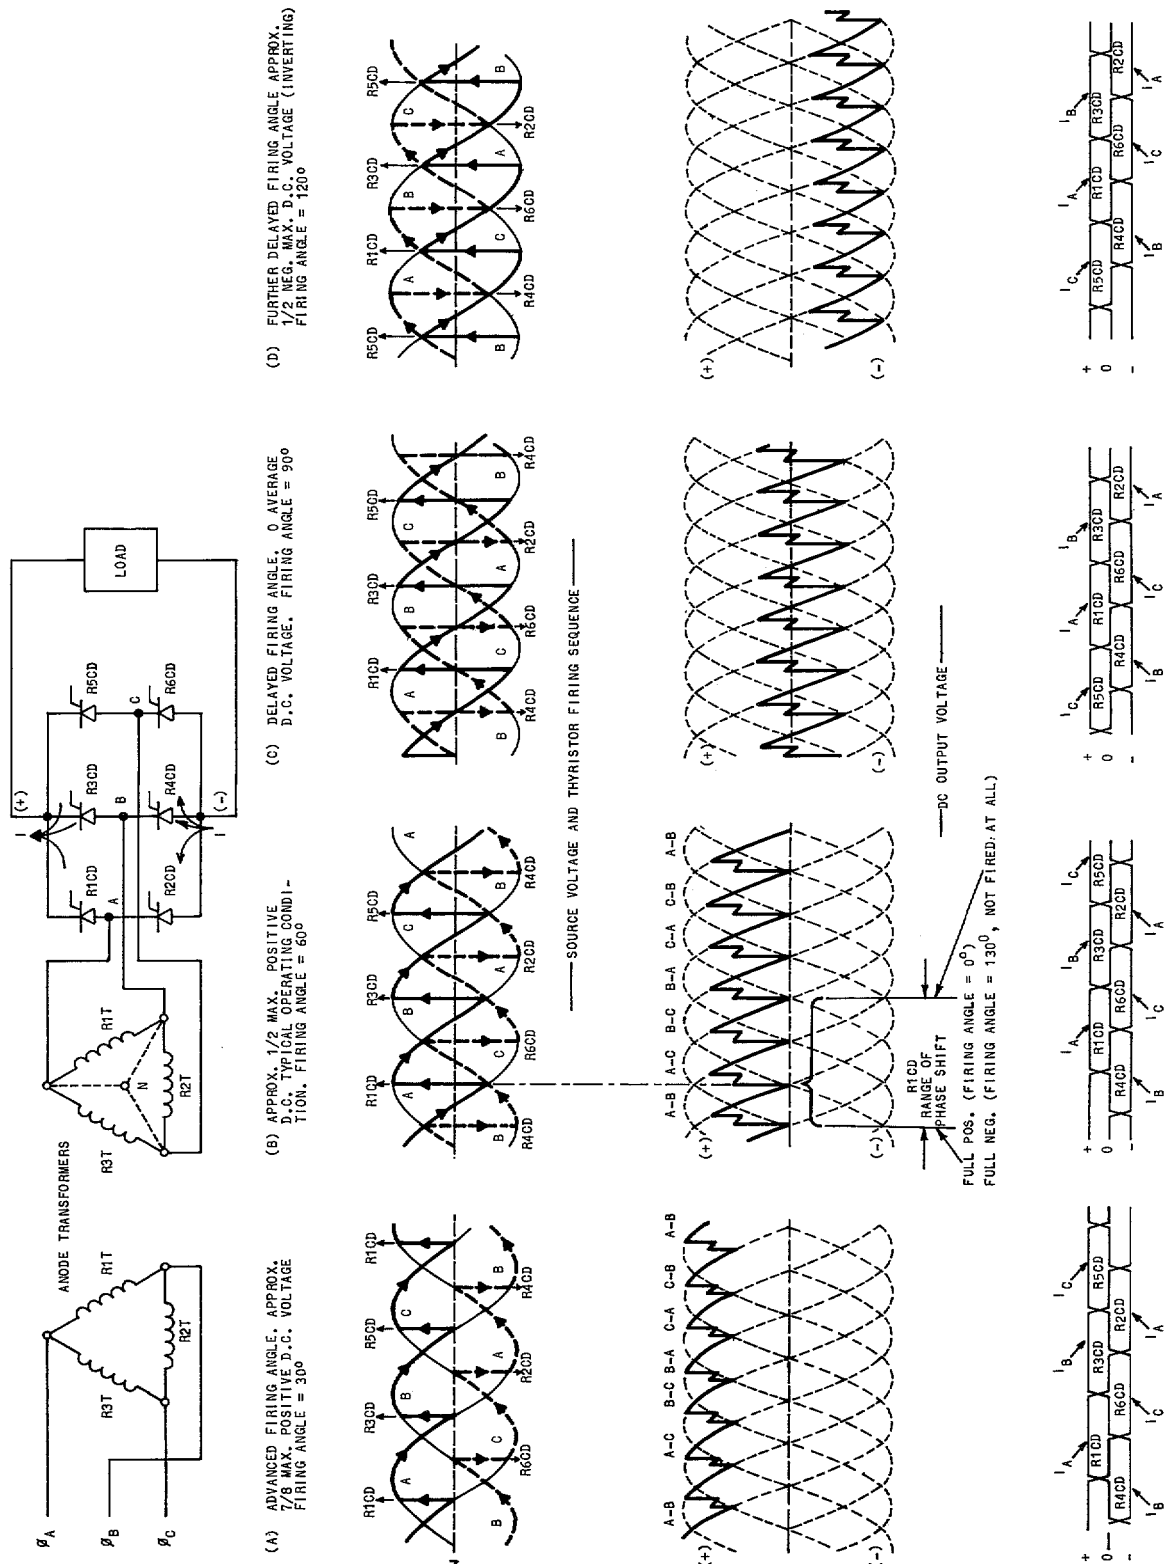
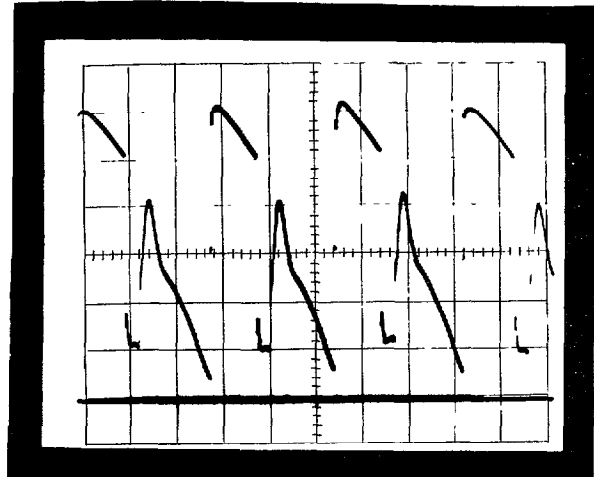
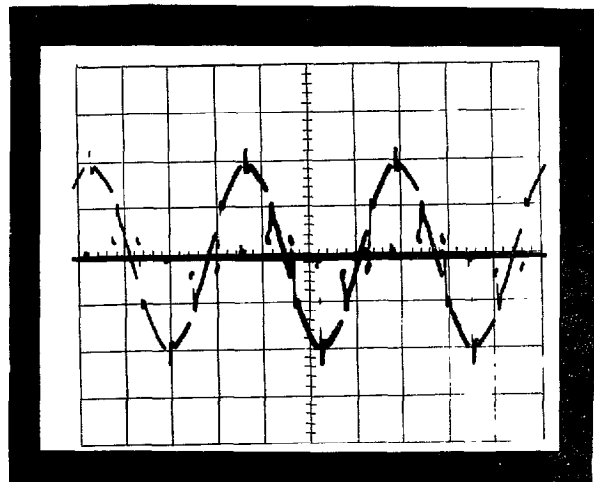

Figure 4. 3-Phase Full-Wave Thyristor Bridge Circuit (Inverting Type).
Figure 5. Exciter Field Voltage Oscillogram.
Figure 6. Exciter Terminal Voltage Oscillogram.
- g. Monitor the exciter field voltage with an oscilloscope or recorder. All six thyristors should fire as shown in Figure 4. There should be no jitter or instability.
The thyristor circuit operates as a phase-controlled variable DC voltage source to control exciter field current as required by the AC and DC regulator. Refer to Figure 4.
In Figure 4 the top waveforms illustrate the source voltage and thyristor firing sequence. The center waveforms illustrate the output DC voltage. The bottom waveforms indicate current flow in the various thyristors.
The circuit used to turn-on, or FIRE the thyristors is covered in detail under Firing Circuit. Refer to Figure 4 (b), a typical steady-state operating condition. Note that the positive (+) side of the circuit follows the solid line as it is switched from line B to C to line A, etc. The negative (-) side of the circuit follows the broken line as it is switched from line A to line B, etc. The three-phase source voltage (A-B-C) is referenced to a neutral (zero) voltage point. Arrows pointing up indicate thyristors firing to connect source voltage to the positive bus, while arrows pointing down indicate thyristors firing to connect source voltage to the negative bus.
If the AC regulator error signal calls for more excitation, the thyristors will be phased-on (α decreases) to furnish more positive DC output voltage. See Figure 4 (a). If the AC regulator error signal calls for less excitation, the thyristors will be phased-off (α increases) to furnish less positive DC output voltage, or even negative DC output voltage. See Figure 4 (c) and (d).
This "inverting" action causes the net output DC voltage to swing negative transiently (as long as positive current is flowing in the inductive load). This inverting action provides both positive and negative voltage output from the thyristor circuit for forcing exciter field current both up and down. During normal operation Figure 4 (b) - power is flowing from the source to the exciter field. During inverting operation Figure 4 (d) - power is flowing from the exciter field back into the source.
In actual operation, the exciter output voltage waveform becomes distorted by commutation. For comparison to the theoretical wave shapes of Figure 4, the actual exciter field voltage is shown in Figure 5. In this figure, the firing angle for the generator thyristor bridge is greater than the firing angle for the exciter thyristor bridge. Also, since the generator field resistance is much less than the exciter field resistance, the commutation period is much greater in the generator thyristor bridge. Thus, the generator thyristor commutation shows up as a notch in the exciter field voltage waveshape. The exciter terminal voltage is shown in Figure 6.
A thyristor remains non-conductive until a firing pulse of current is applied through its gate-to-cathode junction. If the anode is positive with respect to the cathode when the pulse is applied, the thyristor will conduct and remain conducting until the anode voltage goes negative with respect to the cathode and the anode current goes to zero. By delaying the firing pulse during the period when the anode to cathode voltage is positive, the thyristor is phase controlled as described in Figure 4.
Note in Figure 12 (b) that for a positive half-cycle of D201SX voltage, the area of the shaded portion (volt-seconds) must be equal to the preceding negative half-cycle volt-seconds. Thus, as regulator output increases, the firing angle of G210CD is advanced, and the output voltage from the thyristor bridge decreases (phased back). The above and Figure 4 illustrate the primary (phase-controlled) firing of G210CD. The master firing circuits for all other thyristor bridge legs are identical. The regulator output (reset voltage) is applied equally to all six firing reactors (D201SX through D206SX) so that all six thyristor legs in each thyristor bridge are firing at the same respective angle (balanced firing).
The inverting capabilities of a full-wave thyristor bridge depends upon delayed thyristor firing. See Figure 4 (d). If a high negative voltage is maintained on the control winding of the firing reactors, the master gating thyristors may be phased completely off. If a large reset voltage is applied during the negative half-cycle, the firing reactor may not saturate during the positive half-cycle. If this happens, the master gating thyristors would not fire and no thyristor bridge firing pulse would be generated. The load inductance would force the last thyristor that fires to continue to conduct current